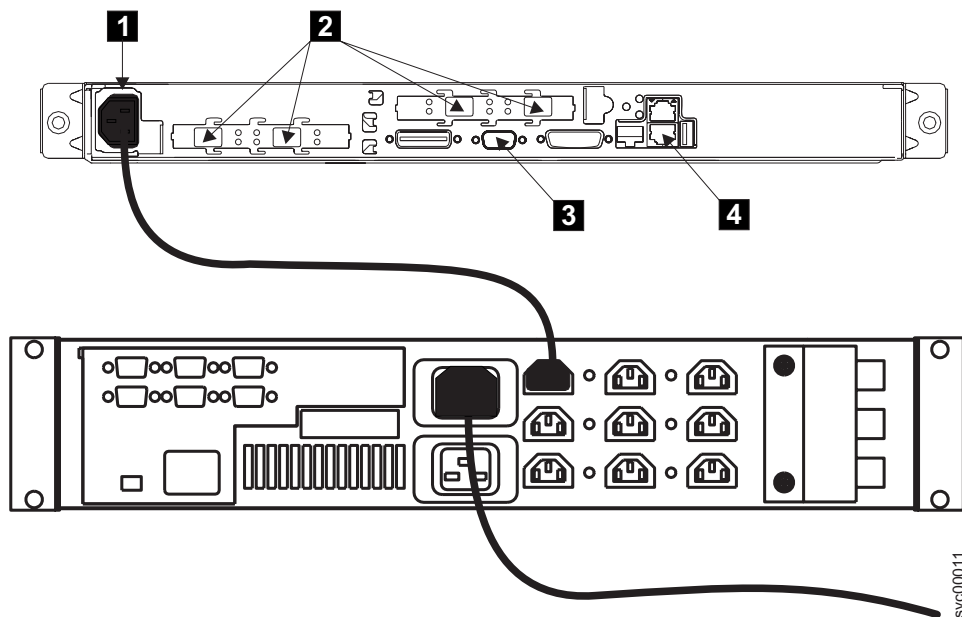

Figure 5. Power cable and signal sockets for the SAN Volume Controller 2145-4F2 and 2145 UPS
2. Ensure that the power cable is plugged into the 2145 UPS. Also, ensure that the other end of the power cable is connected from the 2145 UPS to the distribution point in the rack. Figure 5 shows the connectors for the SAN Volume Controller 2145-4F2 and the 2145 UPS. The power cable connector is shown as **1** in the figure.